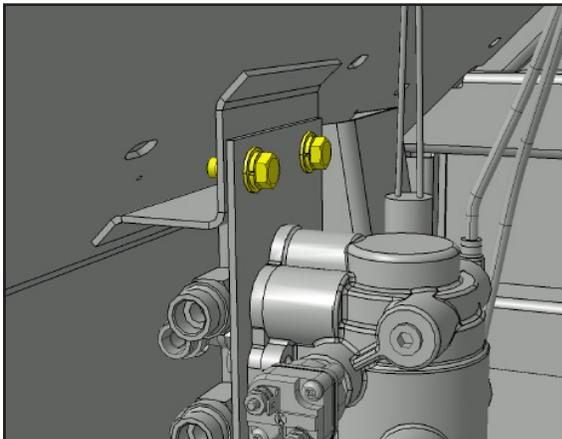

Figure 7: Remove the two sets of 3/8" bolts, lock washers, and flat washers from the top of the bracket.
7. Remove and discard the 3/8" bolts, lock washers, and flat washers from the top of the bracket. There are no nuts on the back side of these bolts (Figure 7).